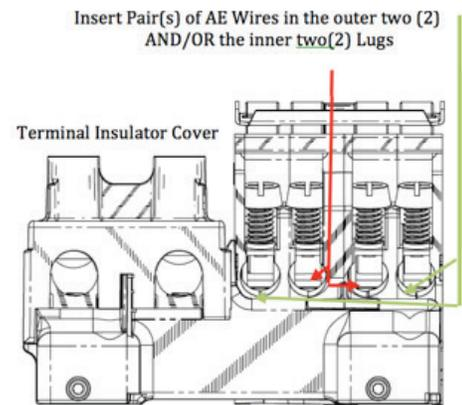

**Figure 2-3 Terminal Insulator Cover securely fastened over split-lug terminals of B3 Bypass.**
15. After ensuring that each split-lug top has been properly assembled, position the one-piece, plastic terminal insulator cover (See **Figure 2-3** below) over the two split lugs and push it down firmly until it snaps into place. (**Pull up** on the terminal insulator cover to confirm that it has been securely fastened.)